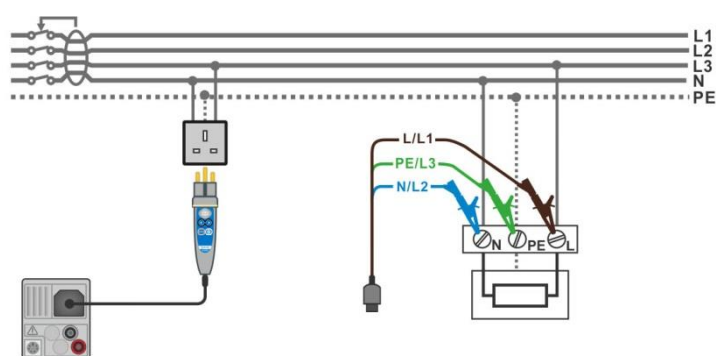

Figure 7.35: Connecting the Plug commander and the 3-wire test lead
- › Connect test leads or Plug commander to the object under test, see **Figure 7.35**.
- Connect test leads or Plug commander to the object under test, see **Figure 7.35**.
<ul style="list-style-type: none"> Enter the RCD Auto function. Set test parameters / limits. Connect test cable to the instrument. Connect test leads or Plug commander to the object under test, see Figure 7.35 Start the measurement. 	Start of test